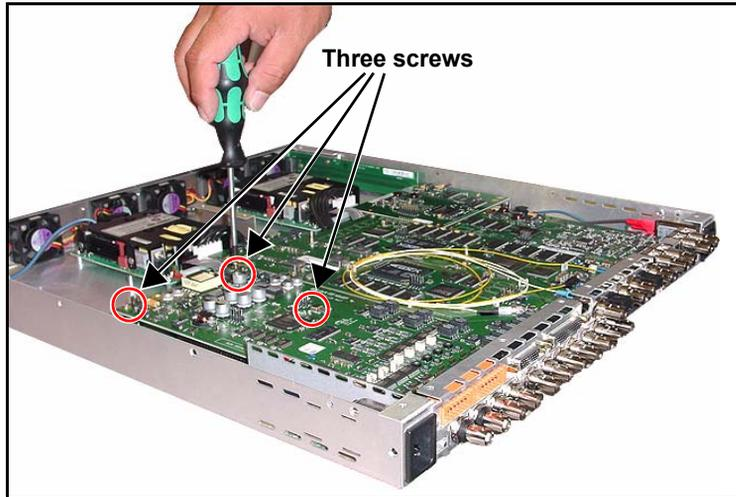
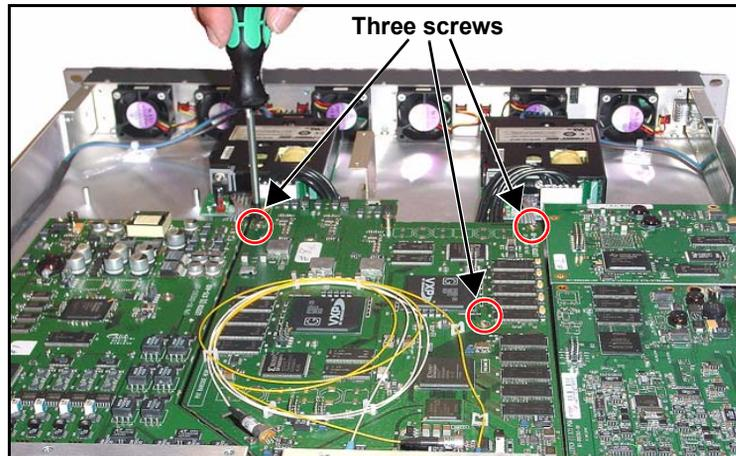

Figure C-37. Removing Audio Board Mounting Screws
Figure C-38. Removing HDTV Board Mounting Screws
3. Remove the three screws that secure the audio submodule to the main board (Figure C-37) and/or the three screws that secure the HD module to the main board (Figure C-38).